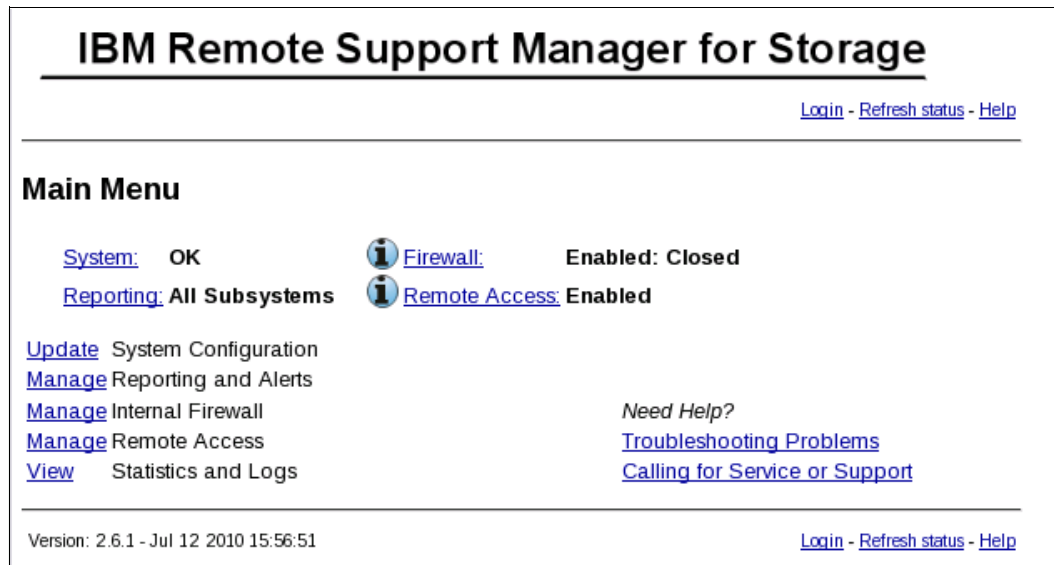

Figure 16-31 RSM main menu: Configured
When the RSM for Storage system is ready to receive events, the System Status will be OK. See Figure 16-31 on page 509.
1. Click **Remote Access** from the Main Menu as shown in Figure 16-31 on page 509.
1. Click **Firewall** on the Main Menu, as shown in Figure 16-31 on page 509.